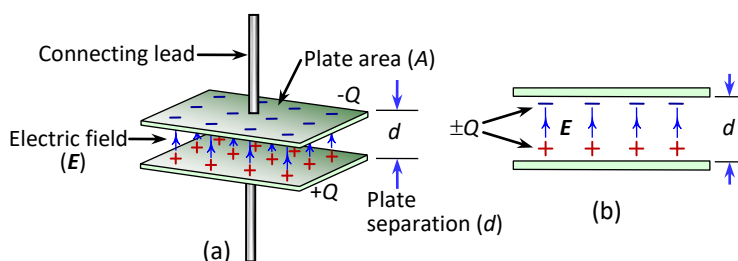

Fig.1-65: Components of a parallel plate capacitor with charge and field: (a) 3-D view, and (b) 2-D view
A **capacitor** (originally called condenser) is a passive two-terminal electrical component used to store electrostatic energy (or charge). Though the shapes and sizes of practical capacitors vary widely, but all capacitors contain two electrical conducting plates separated by a dielectric (i.e., insulator) material [Fig.1-65]. The conductors can be thin films of metal, aluminum foil (rolled cylindrically) or disks, etc. Capacitors are widely used as parts of electrical circuits in combination with many common electrical devices. Unlike a resistor, a capacitor does not dissipate energy. Instead, a capacitor stores energy in the form of electric field (in dielectrics) between its plates.
When potential difference is applied across a capacitor, negative charge accumulates on one plate and positive charge on the other plate as shown in Fig.1-65. Due to these opposite charges between the dielectric film (or air), an electric field is developed, where the energy is stored. The ability of a capacitor to store charge is called **capacitance** and is denoted by  $C$ . The SI unit of capacitance is Farad (F), which is equal to one coulomb per volt (1 C/V). The capacitance of a capacitor will be 1 F, if the capacitor can store 1 Coulomb charge for 1 V potential difference applied to its plates. Farad is a very large unit, so the practical unit of capacitance is microfarad ( $1 \mu\text{F} = 10^{-6} \text{ F}$ ).